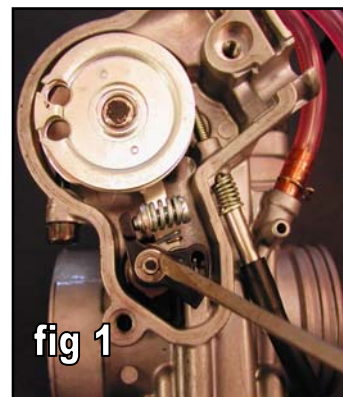

fig 1
2. Remove the carburetor side cover if you have not already done so as part of the carburetor removal procedure. This cover is secured in place by a 4mm Allen or (2) # 25 Torx screws on the Yamaha version of the FCR.
3. Remove the "E" clip by prying it out of the groove with a small screwdriver. *See fig 1 Note: "E" clips can spring off unexpectedly so hold a finger over the clip as you remove it so it doesn't get lost.*